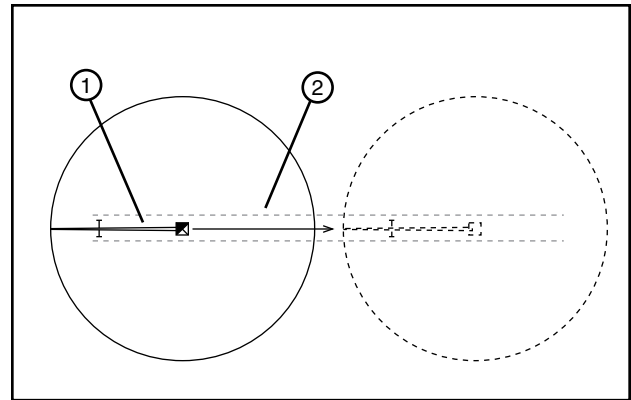

Figure 25-1 1. Machine
1. Position the machine in the tow lane. See figure 25-1.